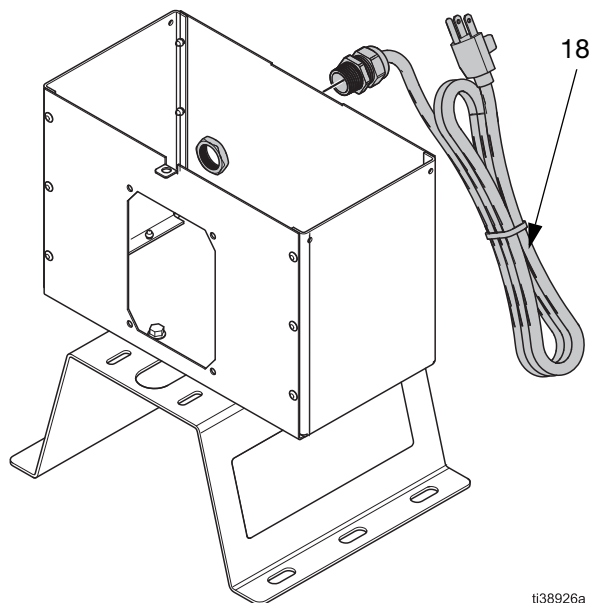

Fig. 4 AC Power Source
- **For AC models (25T651)**, simply plug the power cord (18) into a standard 115 VAC receptacle. See FIG. 4.
- **For DC models (25T650)**, connect red wire on the controller (15) to the red wire on the power supply (13), and the black wire on the pump (2) to the black wire of the power supply (13).